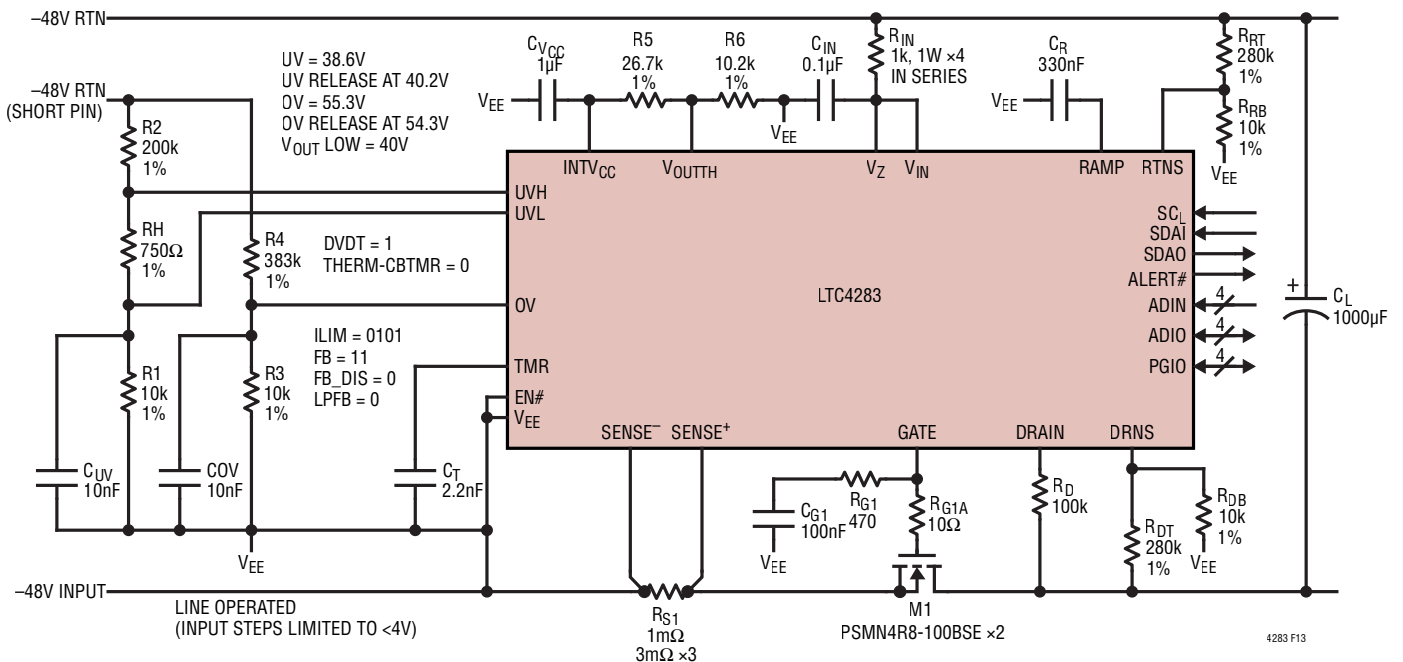

Figure 13. -48V/800W Hot Swap Controller with dV/dt Inrush Control
The second example is a line operated -48V system with supply tolerance of 10% (-43.2V to -52.8V) and maximum load power of 800W as shown in Figure 13. The load capacitance is specified as C_L = 1000μF.
voltage can be obtained with a resistive divider between INTV_{CC} (5V) and V_{EE}. The divider ratio is 5V/1.379V = 3.63. A divider of 26.7k and 10.2k as shown Figure 13 gives a close enough ratio of 3.62.
Although it is possible to use a single, four-resistor (or three-resistor if UVH and UVL connected together) divider as shown in Example 1, Step 7, two independent dividers with 2 (OV) or 2 to 3 (UV) resistors in each divider make it easier to make non-interactive changes at a later time. The two dividers as shown in Figure 13 gives UV shutdown at 38.6V, UV release at 40.2V, OV shutdown at 55.3V and OV release at 54.3V, which covers the full input voltage range of this example. 10nF capacitors filter out noises on UVL and OV.